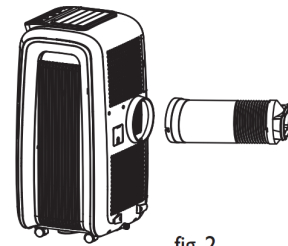

fig. 2
3. Screw the hose connector into the unit. (fig. 2)